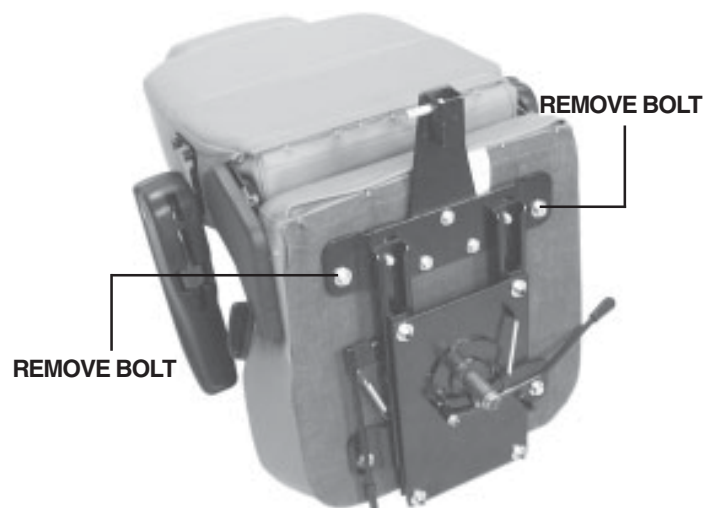

Figure 17. Positioning Belt Installation
2. Place the seat upside down so that you can see the bottom of the seat base. See figure 17.